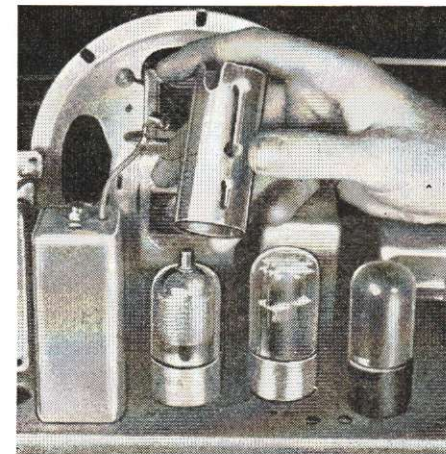

FIG. 7. Removing the shield from a tube.
**Tube Shields.** First of all, we'll take off that metal shield and see what the hidden tube looks like. We remove the clip from the top cap of the tube, then pull the shield straight up with one hand as shown in Fig. 7.